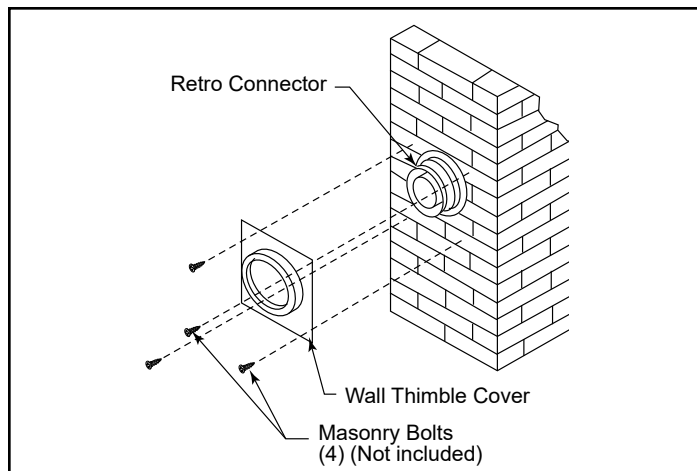
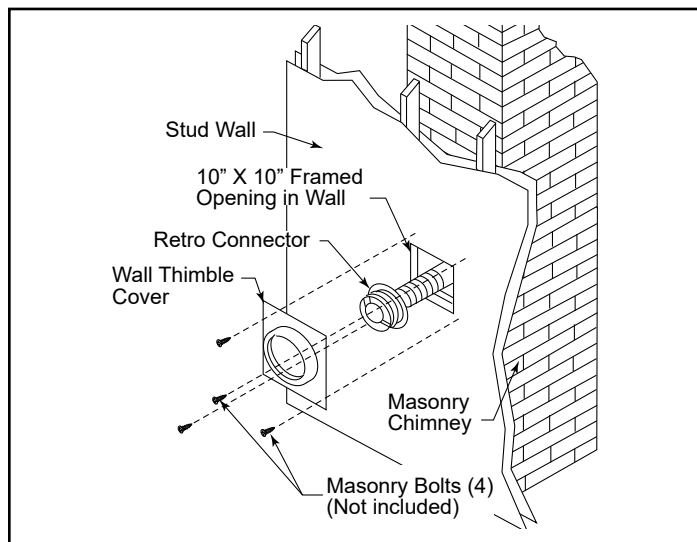

Figure 3.52
Figure 3.53
9. Slide the wall thimble cover (940) over the retro connector and secure the with masonry bolts as shown in Figure 3.52. If you have a framed wall in front of the masonry, use wood screws to mount the wall thimble cover to the framed wall, over the retro connector and the 10" (254 mm) square framed opening as shown in Figure 3.53. If needed, add a section of direct vent pipe to the retro connector in order to extend through the opening in the wall thimble cover.